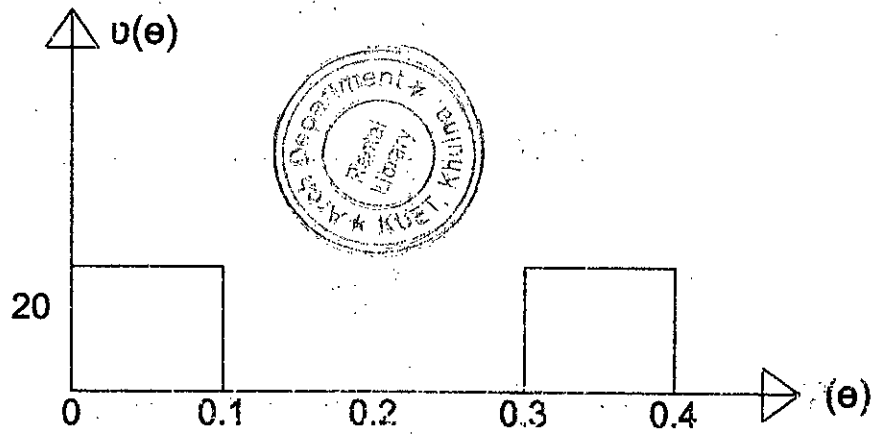

Fig. 4(c)
c) Calculate the RMS and average voltage of the following output signal. Fig. 4(c) 14